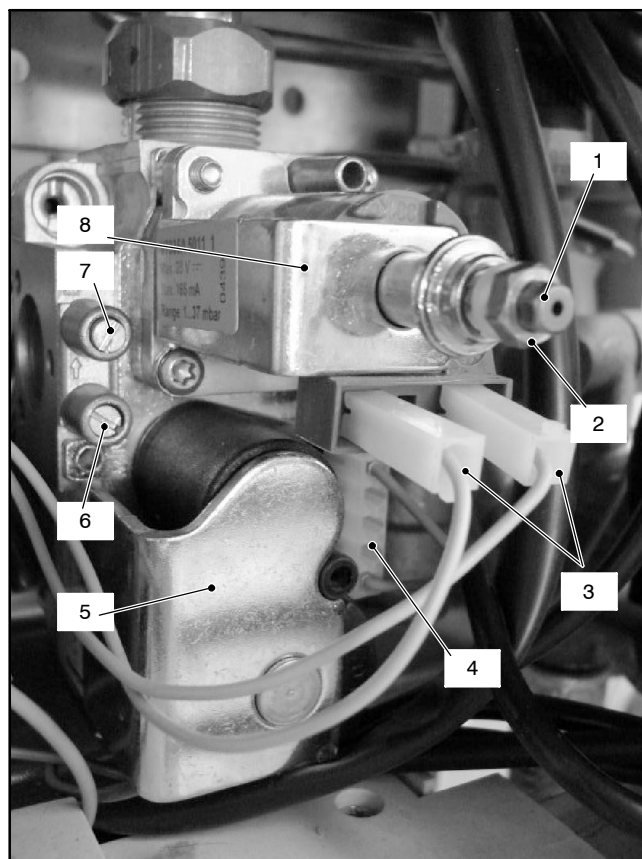

Fig. 54
### 11.2 Nomenclature of the parts (Fig. 54)
- 2 Open the gas valve inlet pressure test point (6 in Fig. 54) at the valve input, connect a suitable pressure gauge and check the gas pressure of the supply network.
- 4 Open the gas valve outlet pressure test point (7 in Fig. 54) and connect the gauge;
- 7 Rotate the maximum gas pressure adjustment (2 in Fig. 54) until you obtain the required pressure (by rotating clockwise the pressure increases).
- 8 Turn the boiler off and disconnect one of the two connectors (3 in Fig. 54).
- 9 Start the boiler and rotate the minimum gas pressure adjustment (1 in Fig. 54) until you obtain the required pressure (by rotating clockwise the pressure increases).